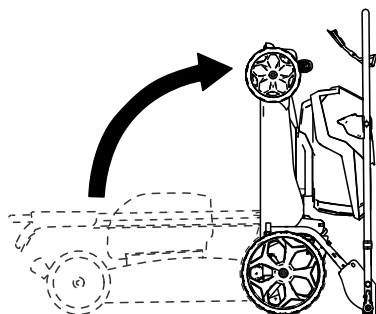

Figure 16
5. Fold the handle forward to the fully forward position as shown in Figure 16.
6. Lift the front of the machine by the handle and move it into a storage space (Figure 16).